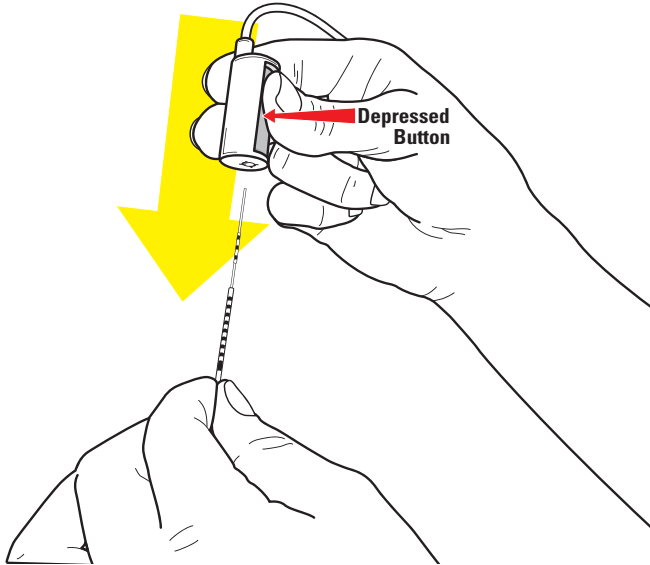

Figure 13. Depress Button on the O.R. Cable Connector to Connect O.R. Cable to DBS Lead
3. Hold the O.R. Cable and DBS Lead as shown in Figure 13. Press down on the button to open the O.R. Cable Connector. Keep the button depressed.
4. With the Lead Stylet in place, slide the O.R. Cable Connector onto the proximal end of the DBS Lead (Figure 13). Make sure that the DBS Lead is fully inserted. The O.R. Cable Connector will stop when the DBS Lead is fully inserted.